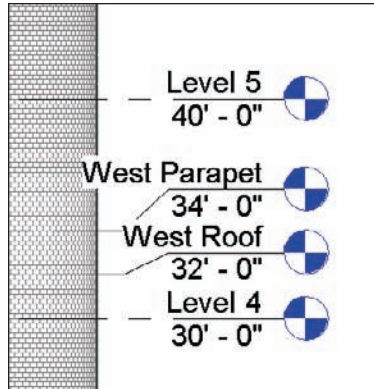

FIGURE 3.23 Adding two new levels for the west side of the building
9. Rename the 2'-0" offset to West Roof (see Figure 3.23), and click Yes to rename corresponding views. You will have to add elbows to the levels to see the names and elevations.